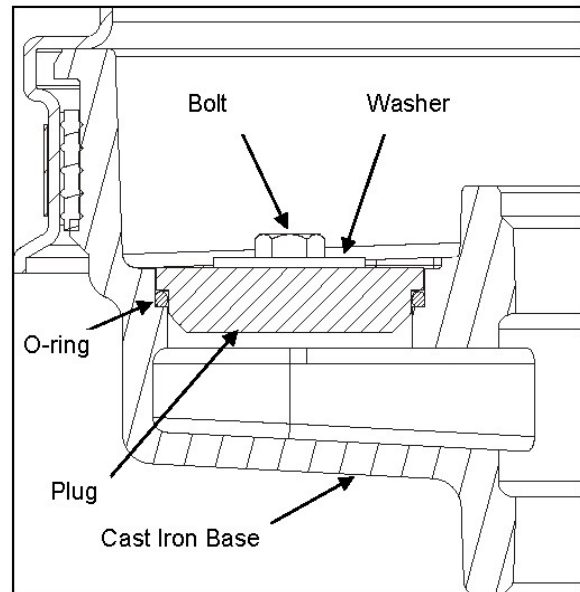

Figure 2 - Cast Iron Base with Plug
5. Secure the 1DP by installing the provided retaining washer and nuts or bolts. Composite base spill containers use nuts to secure the drain plug (see Figure 1) and cast iron base models use bolts (see Figure 2). Tighten the nuts / bolts to a torque of 11.5 ft-lbs min. to 13.5 ft-lbs max.